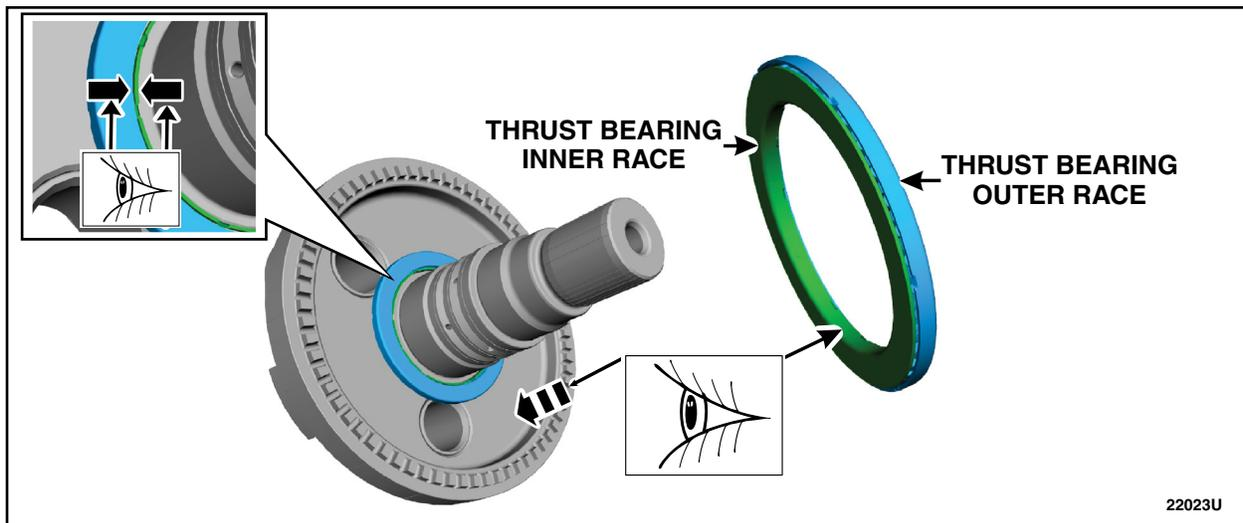

FIGURE 28
31. Snap the (T10) thrust bearing on evenly with the inner race towards the output shaft and planetary carrier. See Figure 28.
32. Verify that the (T10) thrust bearing is correctly installed. See Figure 28.